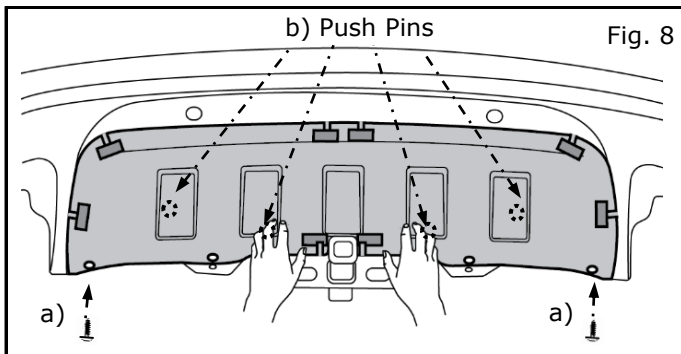

Fig. 8
- 12) Carefully place underbody trim against rear fascia. Insert 4 push pins into the four drilled holes as shown in Fig. 8.